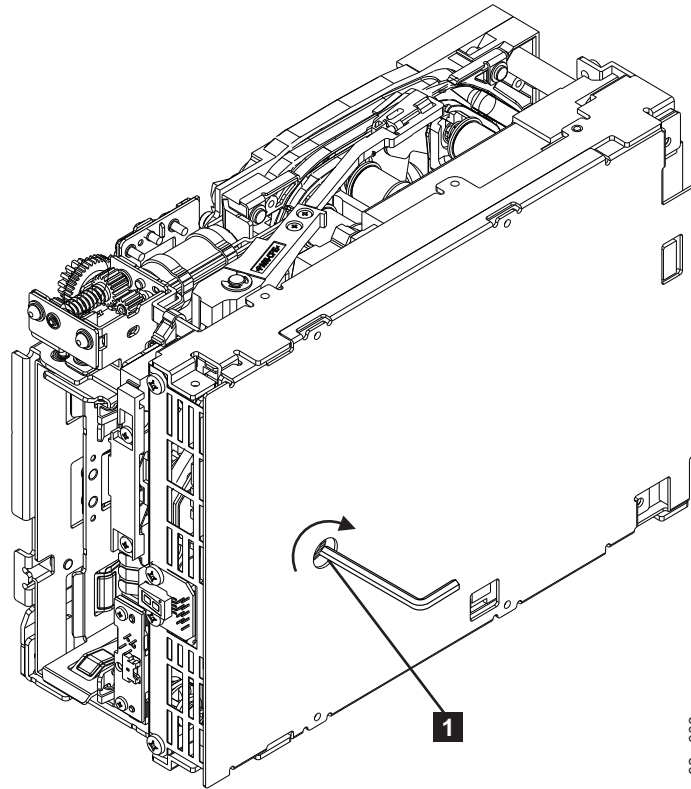

Figure 199. The hex wrench rewinds tape into cartridge
6. From the bottom of the drive, locate the access hole (**1** in Figure 199 on page 270) in the bottom cover. Insert a 2.5 mm offset hex wrench through the bottom cover access hole and into the reel motor axle. Begin spooling tape back into the cartridge by turning the hex wrench clockwise.